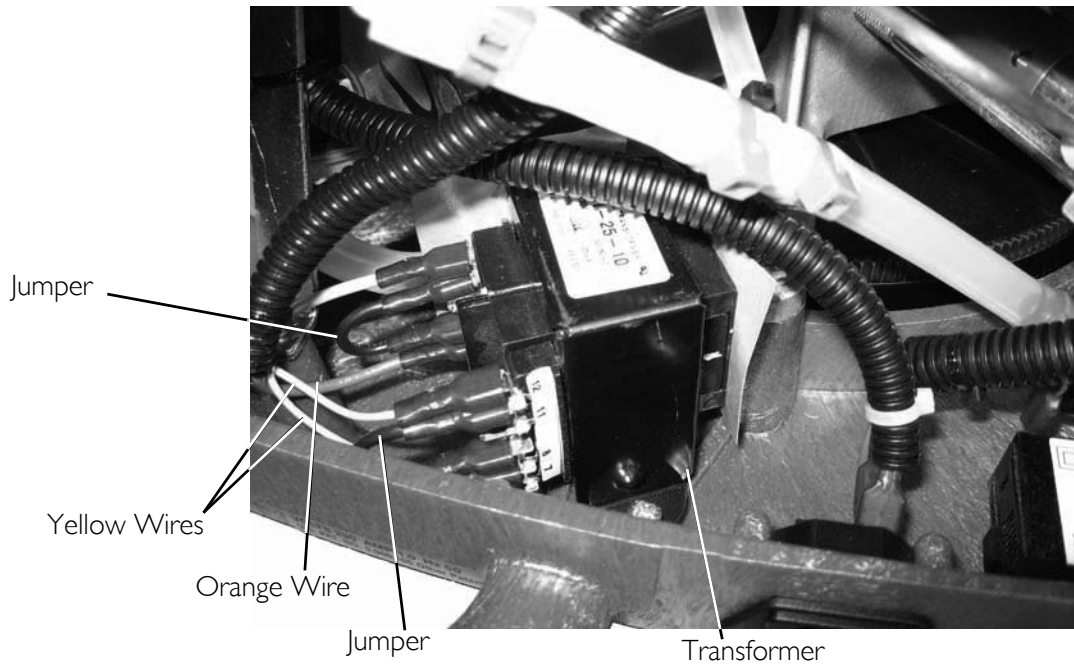

FIGURE 8.4 Base Replacement
12. Using diagonal cutters, cut the tie wrap that secures the oxygen inlet hose to the inlet of stage 1 (FIGURE 8.4).
13. Disconnect the oxygen inlet hose from the inlet of stage 1 (FIGURE 8.4).
14. Using diagonal cutters, cut the tie wrap that secures the oxygen inlet hose to the receptacle fitting (FIGURE 8.4).
15. Remove the oxygen inlet hose from the receptacle fitting (FIGURE 8.4).
16. Using diagonal cutters, cut the tie wrap that secures the oxygen sensor tubing to the oxygen inlet hose (FIGURE 8.4).
17. Remove the oxygen sensor tubing from the oxygen inlet hose (FIGURE 8.4).
19. Using needle nose pliers, disconnect the connectors from the transformer. See Detail "A" in FIGURE 8.4.
20. Using needle nose pliers, disconnect the two connectors from the power inlet (FIGURE 8.4).
21. Using needle nose pliers, disconnect the two connectors (not shown) from the hour meter (FIGURE 8.4).
22. Lift control panel assembly off of base and set aside (FIGURE 8.4).
9. Position control panel assembly on base (FIGURE 8.4).
10. Connect the two connectors (not shown) to the hour meter (FIGURE 8.4).
11. Connect the two connectors to the power inlet (FIGURE 8.4).
13. Connect the oxygen sensor tubing to the oxygen inlet hose and secure with tie wrap (FIGURE 8.4)
14. Connect the oxygen inlet hose to the receptacle fitting (FIGURE 8.4).
15. Secure the oxygen inlet hose to the receptacle fitting with a tie wrap (FIGURE 8.4).
16. Connect the oxygen inlet hose to the inlet of stage 1 (FIGURE 8.4).
17. Secure the hose with a tie wrap using a tie wrap gun set at #8 (FIGURE 8.4).